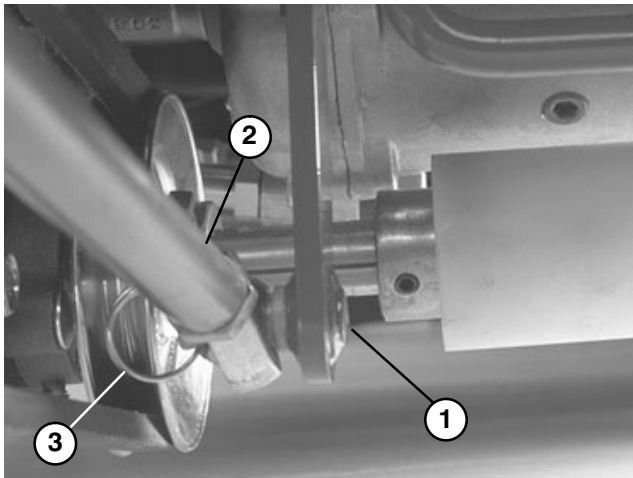

Figure 28
INSTALL BELT TENSIONERS (Fig. 28 & 29) (Floating Cutting Units)
1. Secure a tensioner rod to each traction unit hanger bracket with a pin (Fig. 28).
INSTALL BELT TENSIONERS (Fig. 28 & 30) (Fixed Cutting Units)